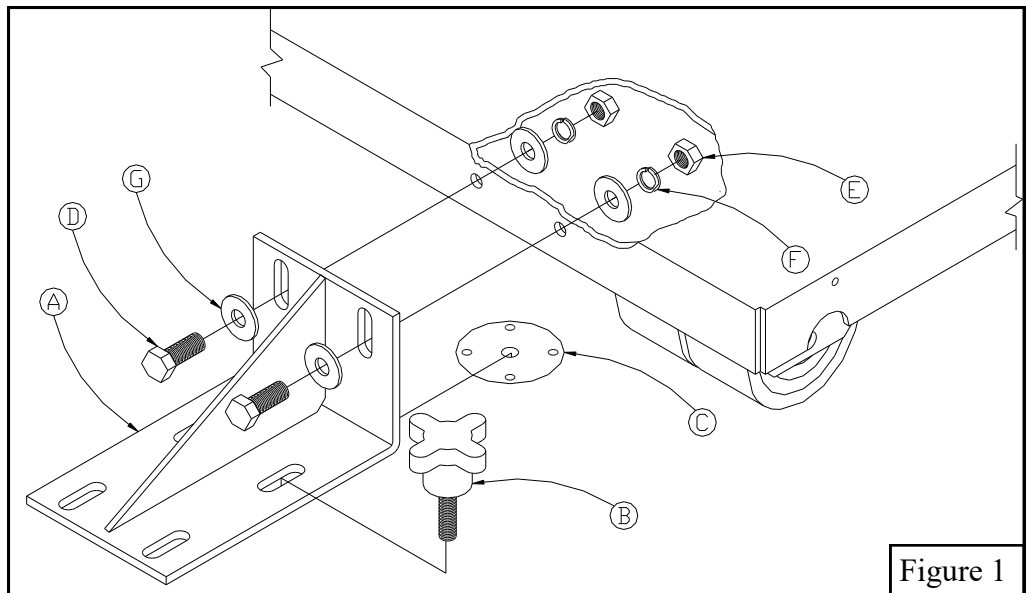

Figure 1
2. Use the *1/2" X 1" Hex Bolts (D)*, *1/2" Flat Washers (G)*, *1/2" Lock Washers (F)* and *1/2" Hex Nuts (E)* to attach *Angle Brace (A)* to the base. Leave hardware finger tight. See Figure 1.
4. Position the unit so that the back of the base is approximately 2" in front of the *VB25 Anchors (C)*.
5. Insert one *Hand Knob (B)* into each of the slots on the outer edge of *Angle Brace (A)* and tighten. See Figures 1 and 2.